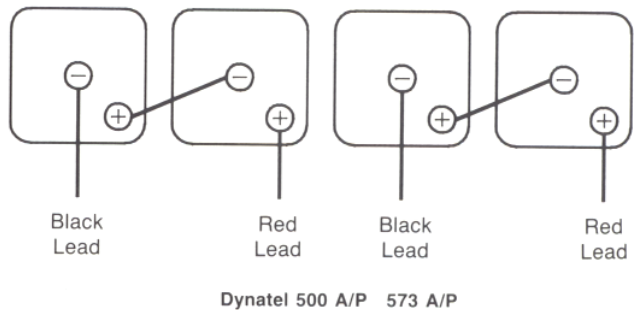

Fig. 29— Transmitter Battery Hookup
- 2) Disconnect each battery, lift from case and replace with a fresh battery. Place new batteries in the same position as the old batteries. Attach the wiring as indicated in Fig. 29.